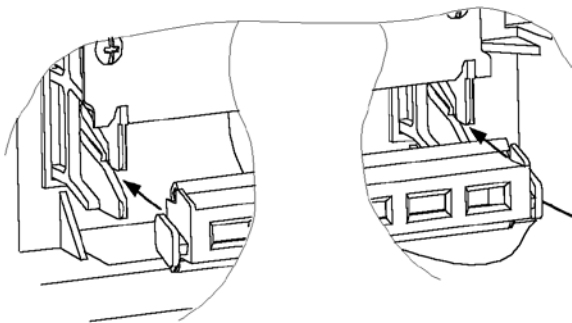

Fig 3.1
- Fit the busbar into the supports and push fully home. (Fig 3.1)